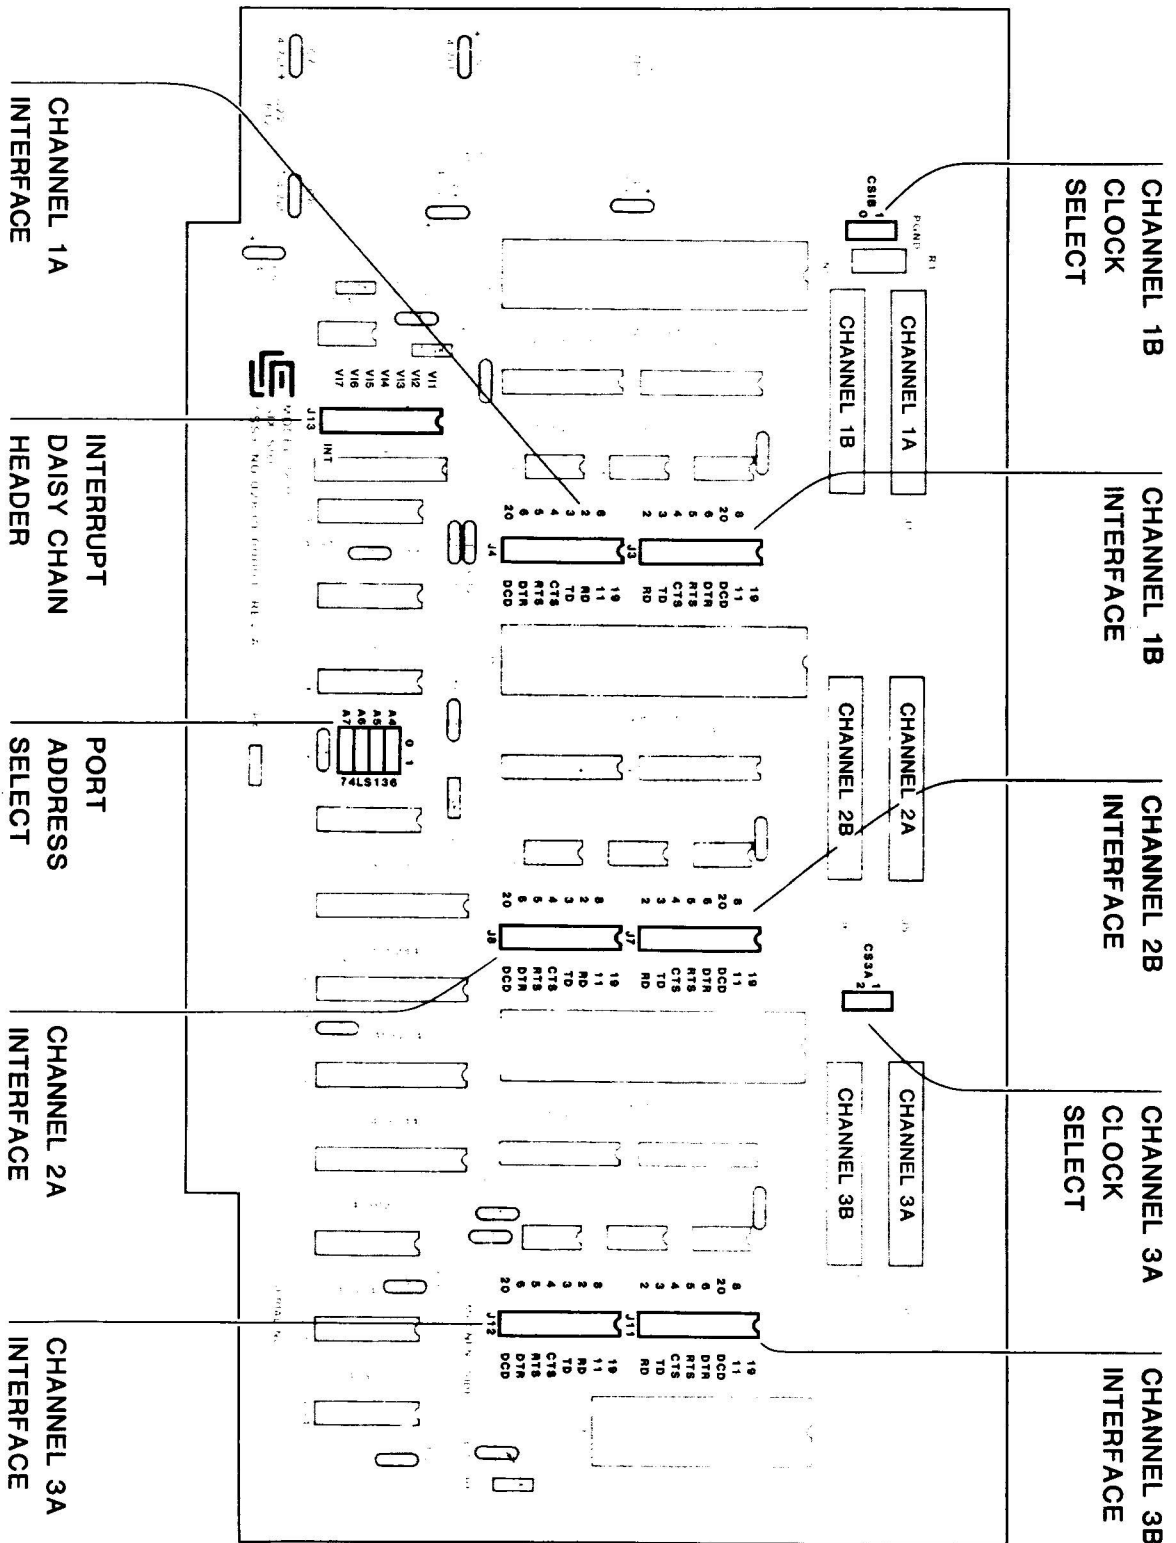

FIGURE 2-1. 2830 JUMPER LOCATIONS
Several user-configurable options exist on the 2830: base address, port interface configuration, baud rate source, interrupt priority level, and interface protective ground. Protective ground for the port interfaces requires user-implementation in all systems in which terminals are to be connected to a different power source than the mainframe (including different wall outlets in the same building). When used in the System 200/300/400 in standard configuration, only the protective ground option need be configured. However, in customized systems reconfiguration may be necessary. Instructions are provided in this chapter. Locations of the jumpers and headers on the 2830 are shown in Figure 2-1.
3. Six I/O cables are supplied with the board. Connect one for each port you plan to bring up, making sure that the triangular pin 1 marks on the board and cable connectors match. See Figure 2-1 for port/connector correspondences.